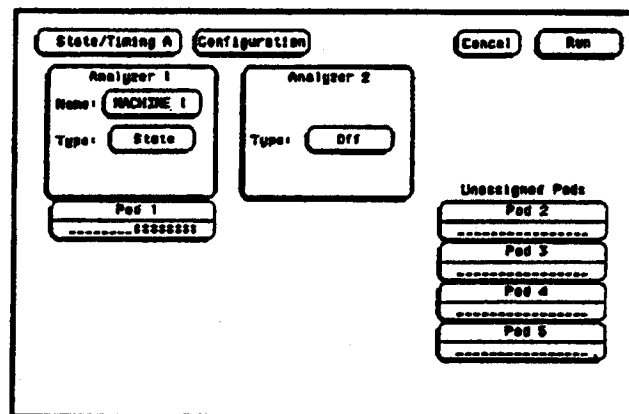

Figure 3-4. Configuration Screen
3. Assign the pod under test to Analyzer 1 in the Configuration screen as shown in figure 3-4. Refer to steps a and b if unfamiliar with menus.
- Assign the pod under test to Analyzer 1 in the Configuration screen as shown in figure 3-4.